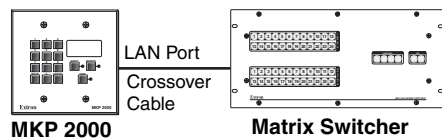

Figure 2-9 — Direct MKP connection using the LAN port
An MKP control panel can be directly connected to any Ethernet-enabled matrix switcher via the switcher's Ethernet port (figure 2-9) using a network (TP) cable that is wired as a crossover cable (see *TP cable termination* to properly wire the cable).
- **Crossover cable** — Direct connection between the MKP and a host computer or an Ethernet-enabled matrix switcher (figure 2-9).